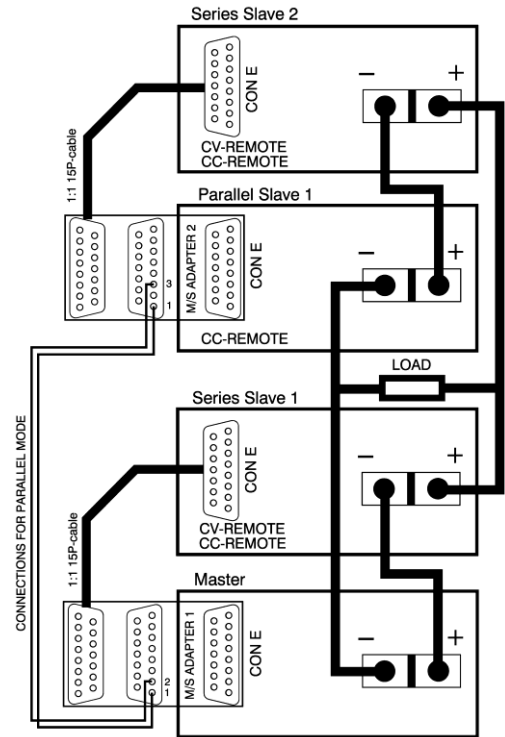

fig 4 - 12
- See fig. 4 - 12 for an example of how to connect 2 units in series in parallel with 2 units in series, controlled by 1 master.